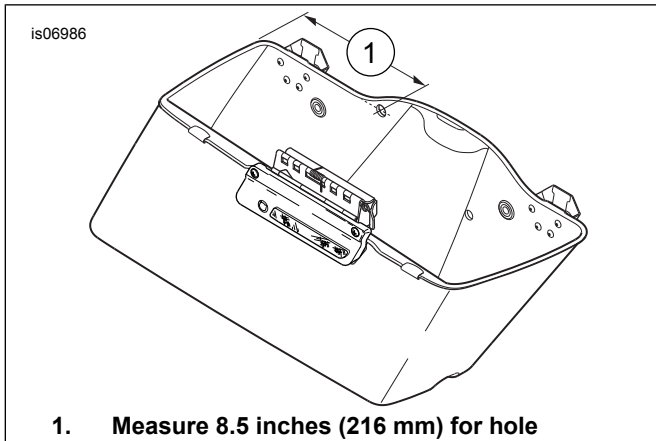

Figure 1. Drill Hole in Inboard Saddlebag Wall (Right-Side Shown)
3. See Figure 1. Measure about 216 mm (8.5 in) from the rear of the saddlebag, in line with the top of the bag as shown. Drill a 16 mm (0.62 in) diameter hole in that location.